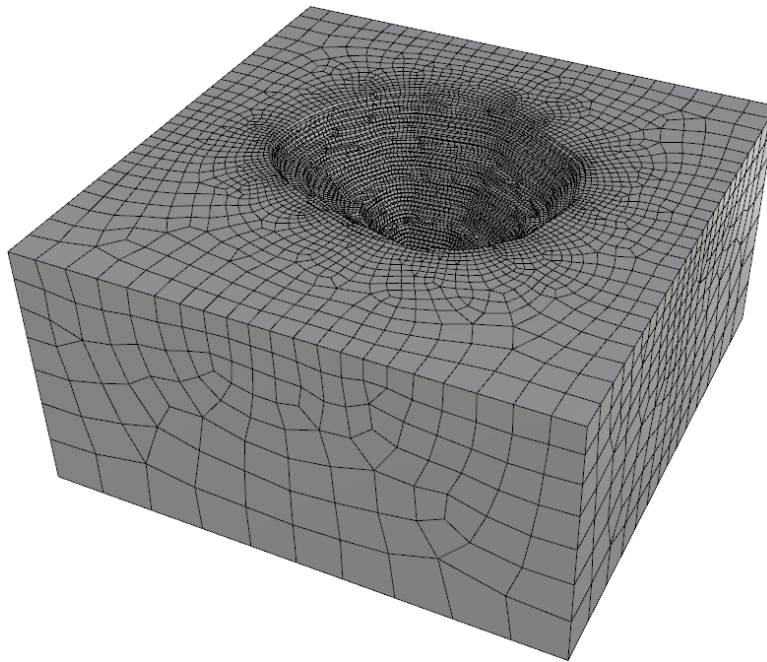

Figure 135: Quad dominant surface mesh produced by *Griddle*.
38. Select your *Rhino* mesh, type **_GSurf** (for the Griddle surface remesher) and remesh this surface with **Mode:QuadDom**, **MinEdgeLength 20** (the bench height). Leave the other values as defaults and press Enter. You should obtain a mesh similar to that shown in Figure 135.